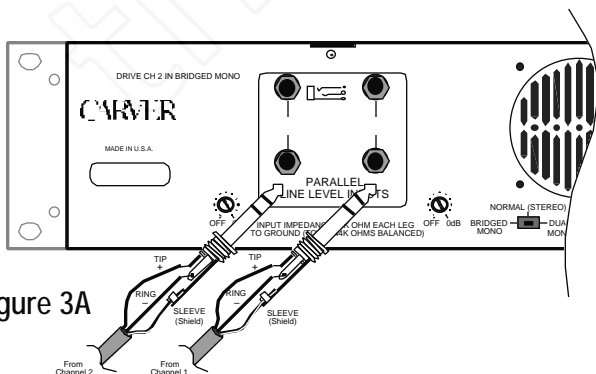

Figure 3A
U.S. Version: Use a 3-conductor TRS 1/4" phone plug. The tip of the plug carries the (+) (hot, non-inverting) side of the signal, the ring carries the (-) (low, inverting) side of the signal, and the sleeve is ground (see Figure 3A).